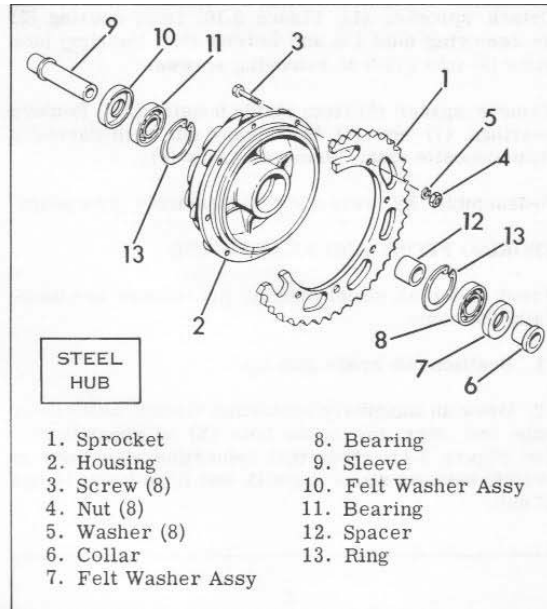

Figure 2.9. Removing and Installing Rear Wheel Sprocket Assembly - Steel Hub
Detach sprocket (1), Figure 2.9, from housing (2) by removing nuts (4), washers (5), and screws (3).